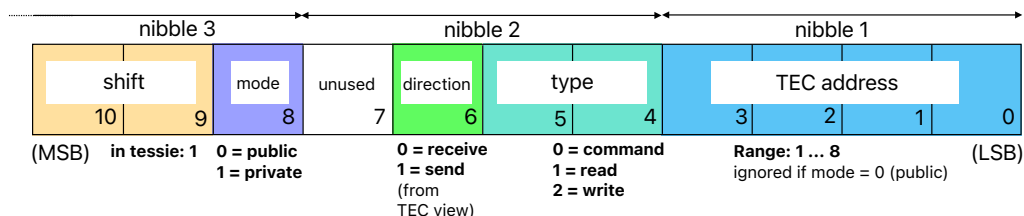

Figure 3: The CAN ID used in the coldbox's CAN bus.
Communication in the CAN bus proceeds through the transfer of frames, consisting (among others) of an ID (identifier), specifier of the data length (in our system: 0, 1, or 5), and the data. Any connected device can transmit data when the bus is free. All connected devices see all transmissions and decide whether or not to accept it, based on the board identifier and one specific bit in the ID. The ID consists of 11 bits illustrated in Fig. 3. Starting at
- The 25x DATA[5] frames correspond to TEC x providing register readout, with the register number given in the first data byte (ranging from 0x00 to 0x14, as provided in Table 2). The digits 25 arise from the **shift bit** and (**send|read**), respectively (cf. Fig. 3).
- Writing to the TEC registers would show up as 32x frames. The digits 32 arise from the (**shift bit|private**) and **write**, respectively (cf. Fig. 3).